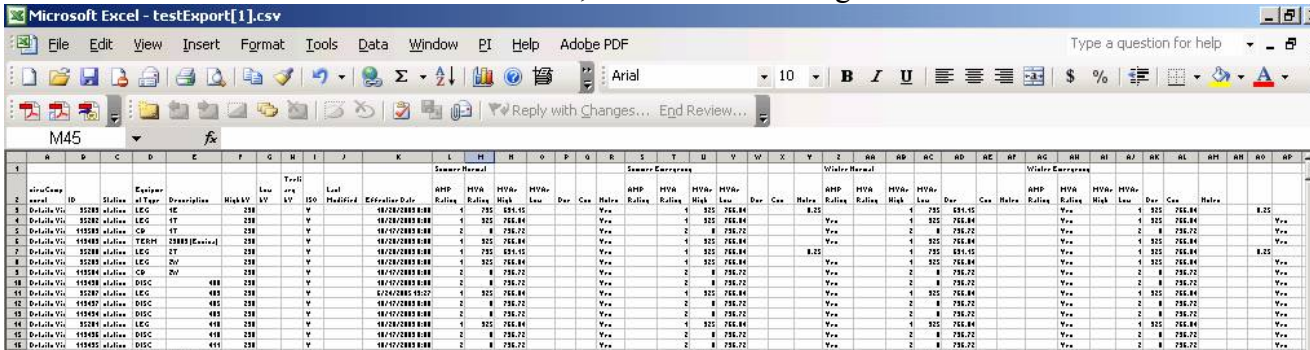

Figure 6. Sample AutoLoader Spreadsheet
- **Click** the Autoloader Export hyperlink, which exports the Search Results into a .csv format, demonstrated in Figure 6.